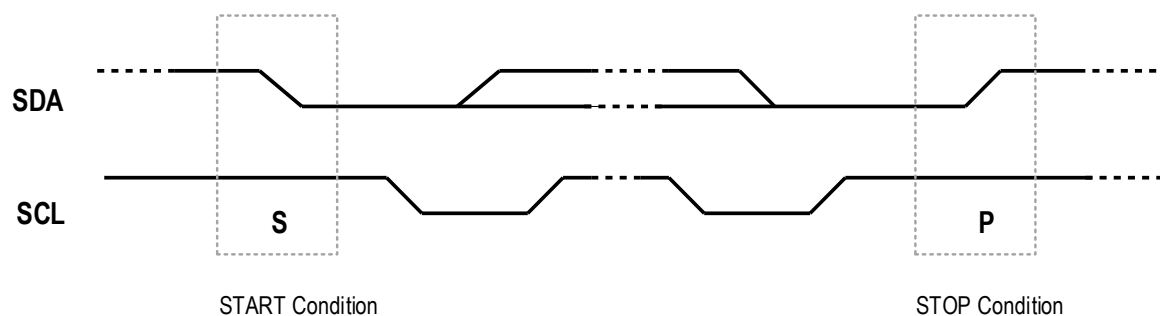
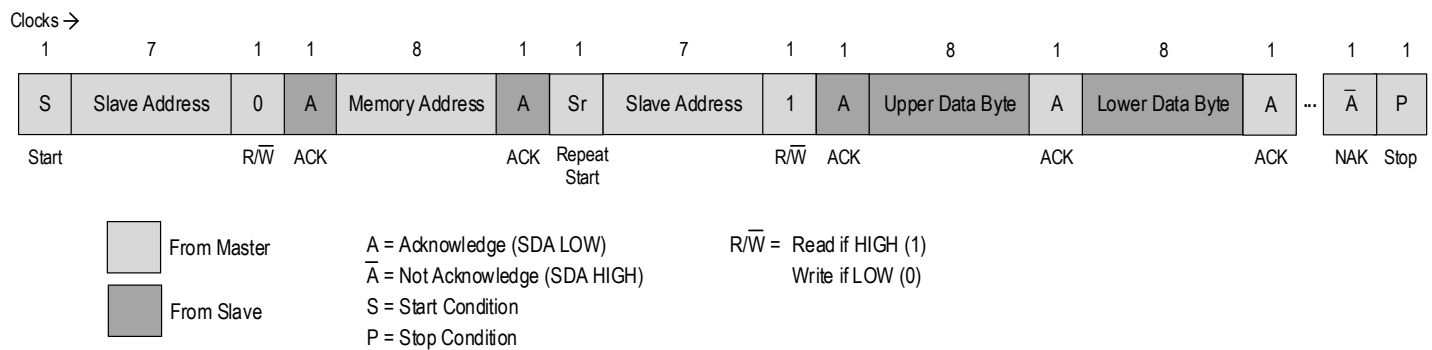

Figure 18. I2C START and STOP Conditions
Figure 26. I2C Data READ from Slave(s) with Repeated START
In the procedures for the I2C bus, the START condition (S) is defined as a high to low transition on the SDA line while SCL is high and a STOP condition (P) is defined as a low to high transition on the SDA line while SCL is high, see Figure 18.
- BURST WRITE command to slave; the transfer direction is not changed (see Figure 26)
- READ from one or more slaves with repeated START condition (see Figure 26)
For a write operation to random addresses, the data frame includes a combined format where a different slave address may be selected after sending a repeated start (Sr) bit. A repeated start bit has the same composition as a regular start bit (falling edge on SDA with SCL = high), but it is sent before a stop bit (rising edge on SDA with SCL = high); see Figure 18 for further details.
For a read access with random memory addresses, the data frame includes a combined format where the data flow direction changes from writing to a register to reading from a register. This data flow requires a repeated start (Sr) bit as shown in Figure 26 and detailed in Table 53. A repeated start bit has the same composition as a regular start bit (falling edge on SDA with SCL = high), but it is sent before a stop bit (rising edge on SDA with SCL = high); see Figure 18 for further details. Data read without repeated start is not supported.